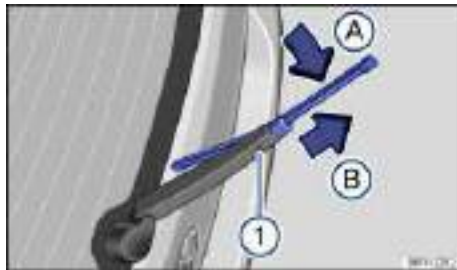

Fig. 174 Changing the rear window wiper blades.
- Press and hold the release button ⇒ fig. 174 \(1\).
- While lifting the wiper blade in the direction of the wiper arm ⇒ fig. 174 (arrow (A)), pull off the wiper blade in the direction of the arrow (B). This may require moderate force.
- Install a new wiper blade of the **same length and type** onto the wiper arm by pushing in the opposite direction of the arrow (B) until it latches.